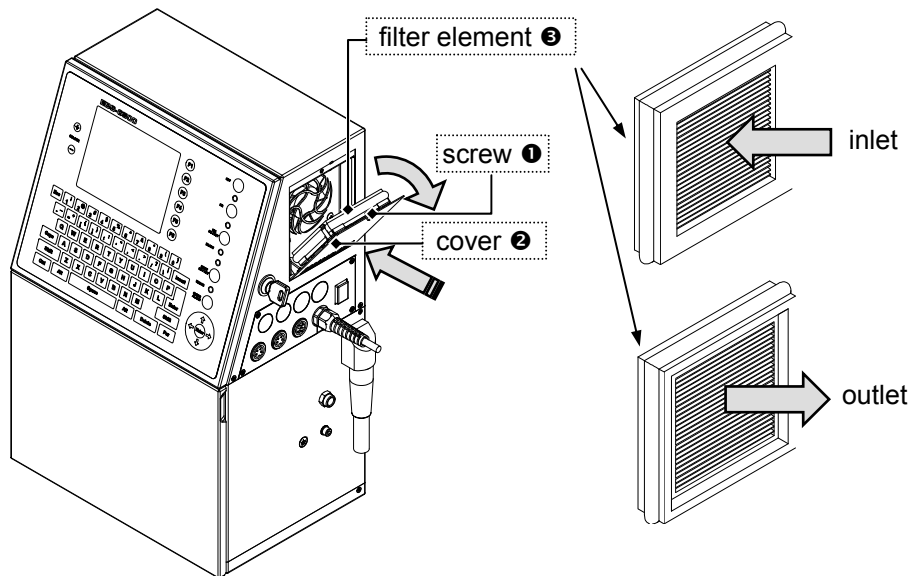

Fig. 6.1.6.1
1. With a cross-head screwdriver unscrew the screw ❶ that secures cover ❷ of filter element ❸ - the screw cannot be unscrewed completely but it may only be loosened so that the cover can be opened.
2. Open the filter element cover in the direction shown in **Fig. 6.1.6.1**.
3. Replace the filter element with a new one – the element must be installed in the right direction and this direction is shown in **Fig. 6.1.6.1** (the filter inlet points to the outside of the printer, the filter outlet - to the inside).